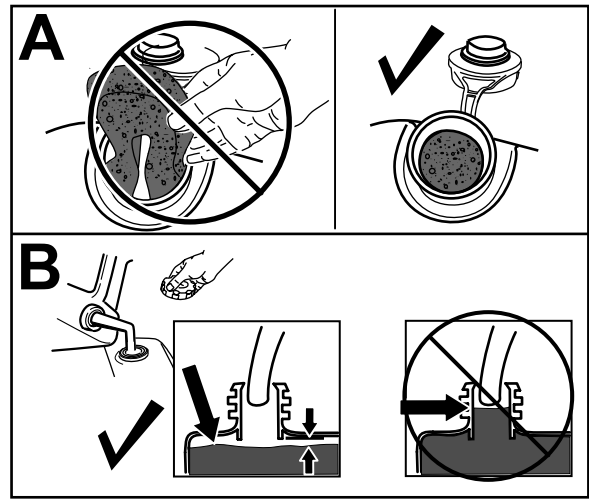

Figure 10
1. Clean around the fuel-tank cap and remove the cap from the tank (A of Figure 10).
**Important:** This machine is equipped with a premium fuel tank that uses a foam insert to prevent fuel agitation. Never remove the foam element, because it allows the engine to use all the fuel in the tank (B of Figure 10).